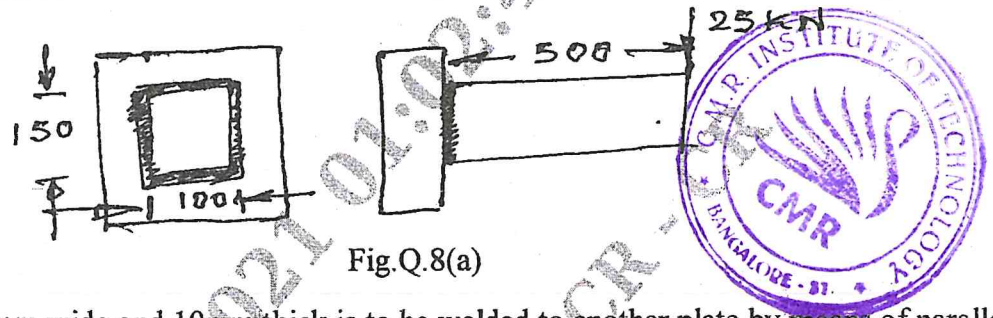

Fig.Q.8(a)
- 8 a. A shaft of rectangular cross section is welded to a support by means of fillet welds, as shown in Fig.Q.8(a). Determine the size of the welds, if the permissible shear stress in the weld is limited to 75N/mm^2 . (10 Marks)